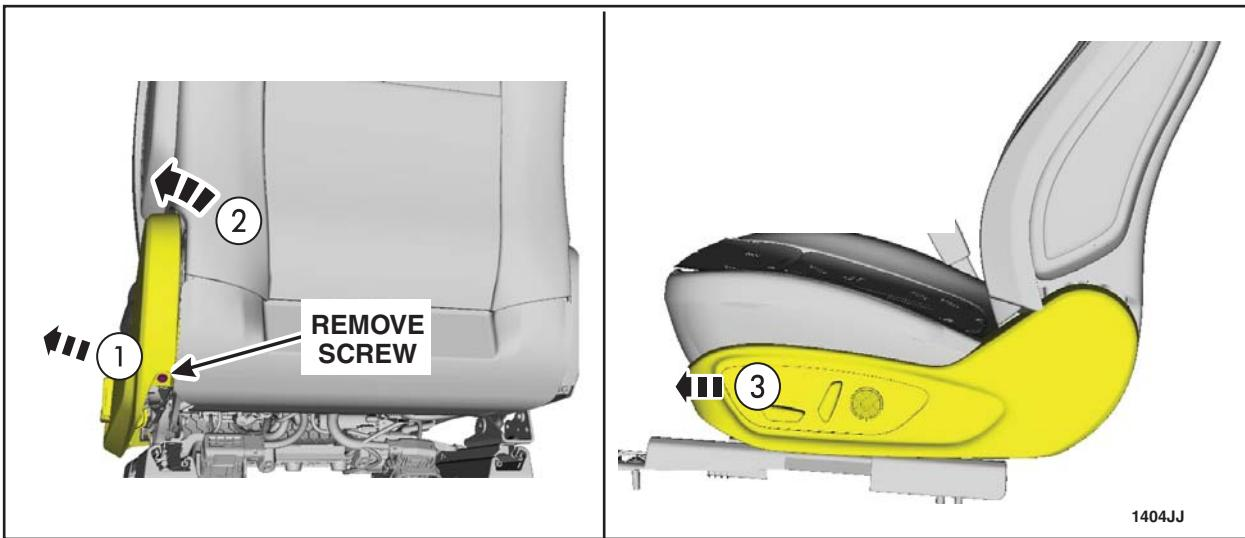

FIGURE 15
18. Remove the side cushion cover. See Figure 15.
- At the location shown in Figure 15 #1, pull out to release the retaining clips.
- At the location shown in Figure 15 #2, pull up and out to release the upper retaining tab.
- As shown in Figure 15 #3, slide the cover forward to remove from the seat.
4. Install the side cushion cover. See Figure 15.